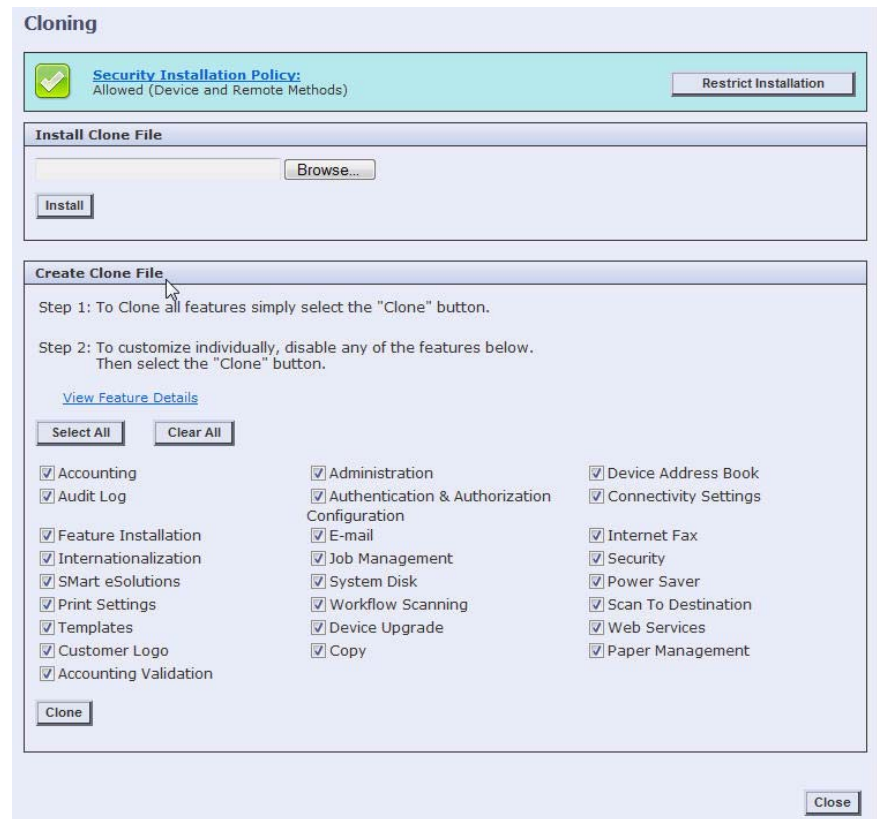

Figure 1 Cloning interface
1. When the **Centroware® Internet Services** window opens, select the **Properties** Tab. Click on the **General Setup** link, then the **Cloning** link as shown in Figure 1.
1. Select the **Clone** button under the **View Feature Details** link Figure 1.